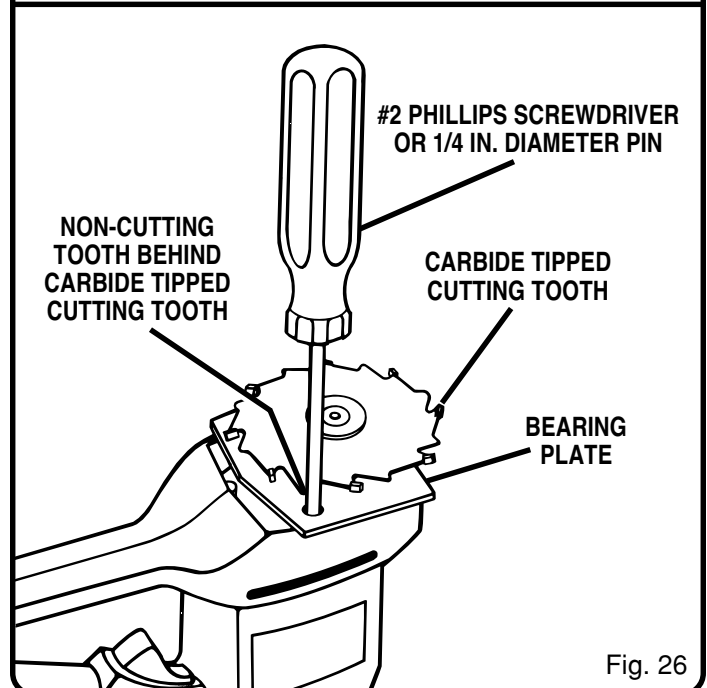

Fig. 26
8. With base assemblies removed, place plate joiner upside down on a workbench as shown in figure 26.